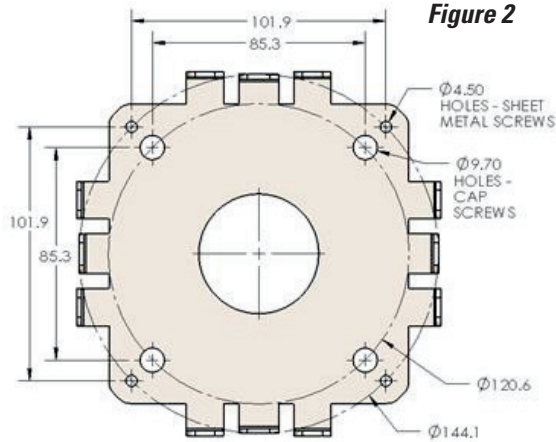

Figure 2 - Steel Mounting Bracket - Dimensions in mm
2. Mounting bracket is designed to be mounted with either sheet metal screw (outer pattern) or combination of cap screws, nuts and washers (inner pattern). The sheet metal screws are supplied. You should choose hardware appropriate to the surface to which you intend to attach the light. Drill holes in mounting surface for either type of hardware depending upon your preference. Refer to Figure 2 for hole pattern dimensions or use holes in mounting bracket as a guide.